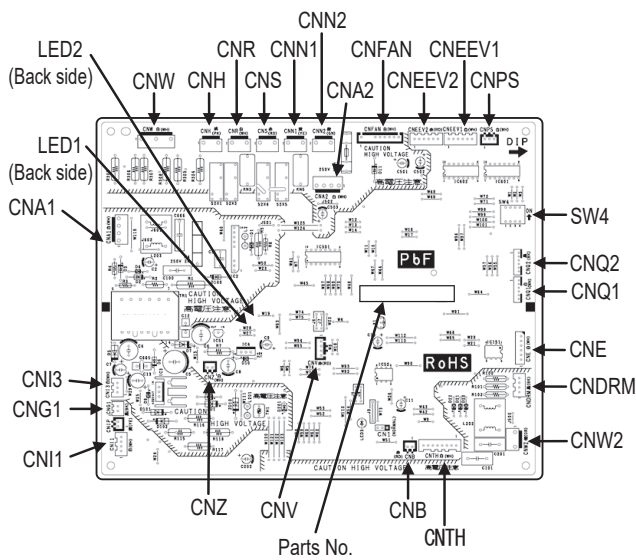

Fig.1 Parts arrangement view
- 2) Disconnect the connectors and faston terminals from the inverter PCB as shown in Fig. 1.